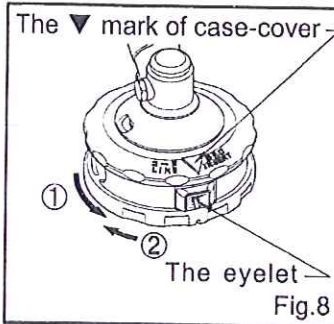

Fig. 8
1. Line up the ▼ mark on the case cover with eyelet. This operation is accomplished easily when the case cover is rotated in the ① direction and returned in the ② direction. (Fig. 8)